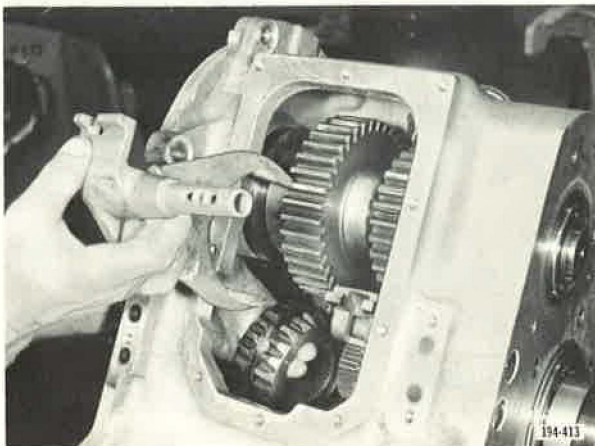

Figure 18. Removing Direct and Lo-Range Sliding Clutch and Shift Fork
2. Slide direct and lo-range (lo-lo range for TRXL1071) sliding clutch off of mainshaft and at the same time, remove direct and lo-range shift fork from case through top cover opening. See Figure 18.